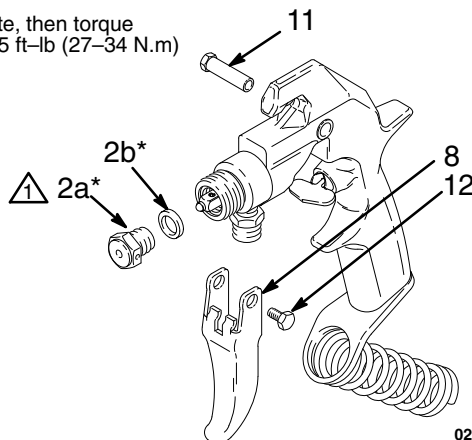

Fig. 6
3. Remove the diffuser/seat (2a*) and gasket (2b*). Remove the screw (12), pivot pin (11), and trigger (8). See Fig. 6.
- Grease the diffuser/seat threads. Place the new gasket (2b*) on the diffuser/seat (2a*) and screw the assembly into the fluid housing (7). Torque to 20–25 ft-lb (27–34 N.m). See Fig. 6.
- Install the trigger (8), pivot pin (11) and screw (12). See Fig. 6.